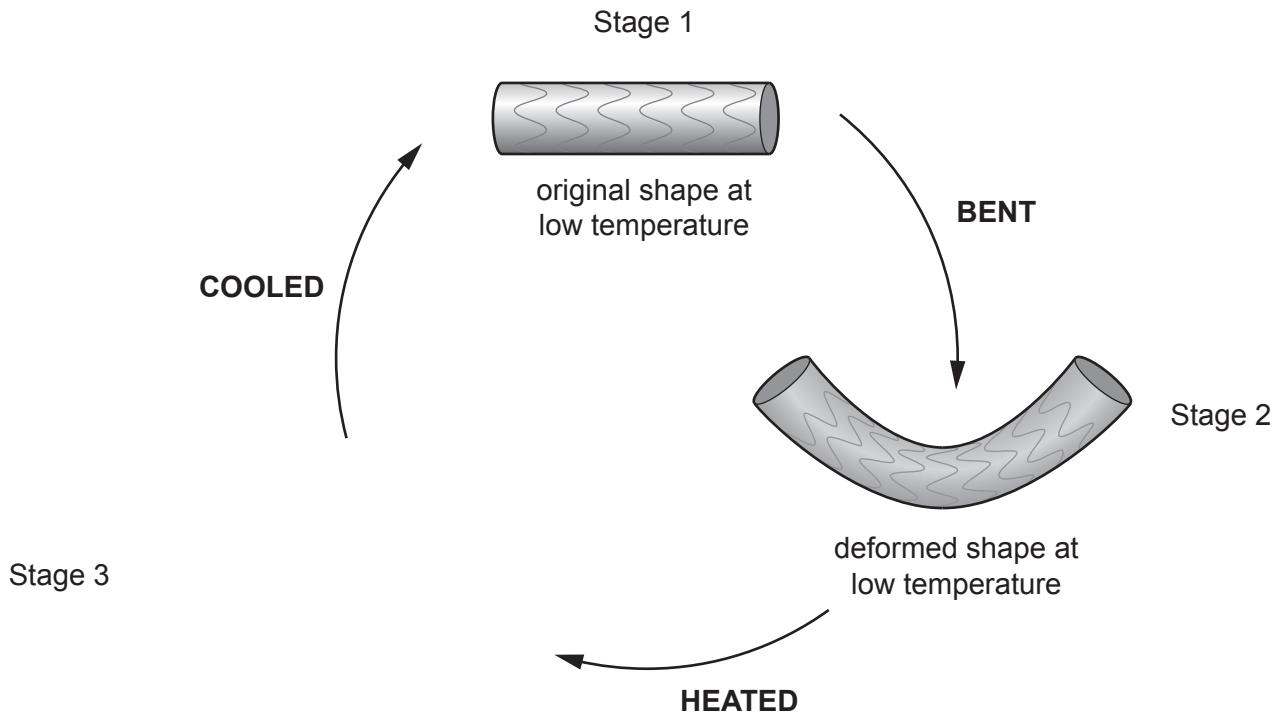

Fig. 6.1
- 6 Fig. 6.1 shows what happens to shape memory alloy (SMA) when it is heated.
Complete Fig. 6.1 by drawing the shape of the SMA at Stage 3.